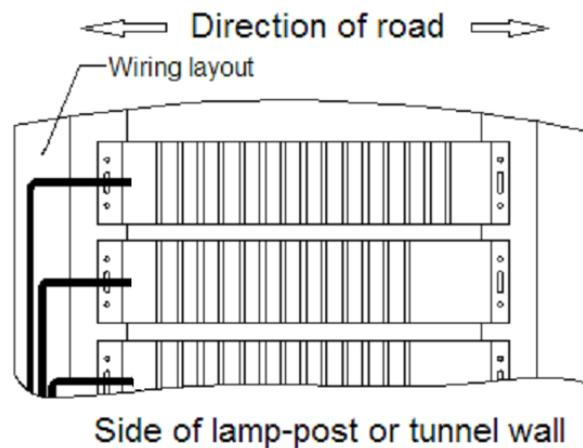

Figure 6 - Wiring arrangement in a luminaire
1.4.4 Wiring layout in the luminaire shall be arranged at one side as shown in figure 6.